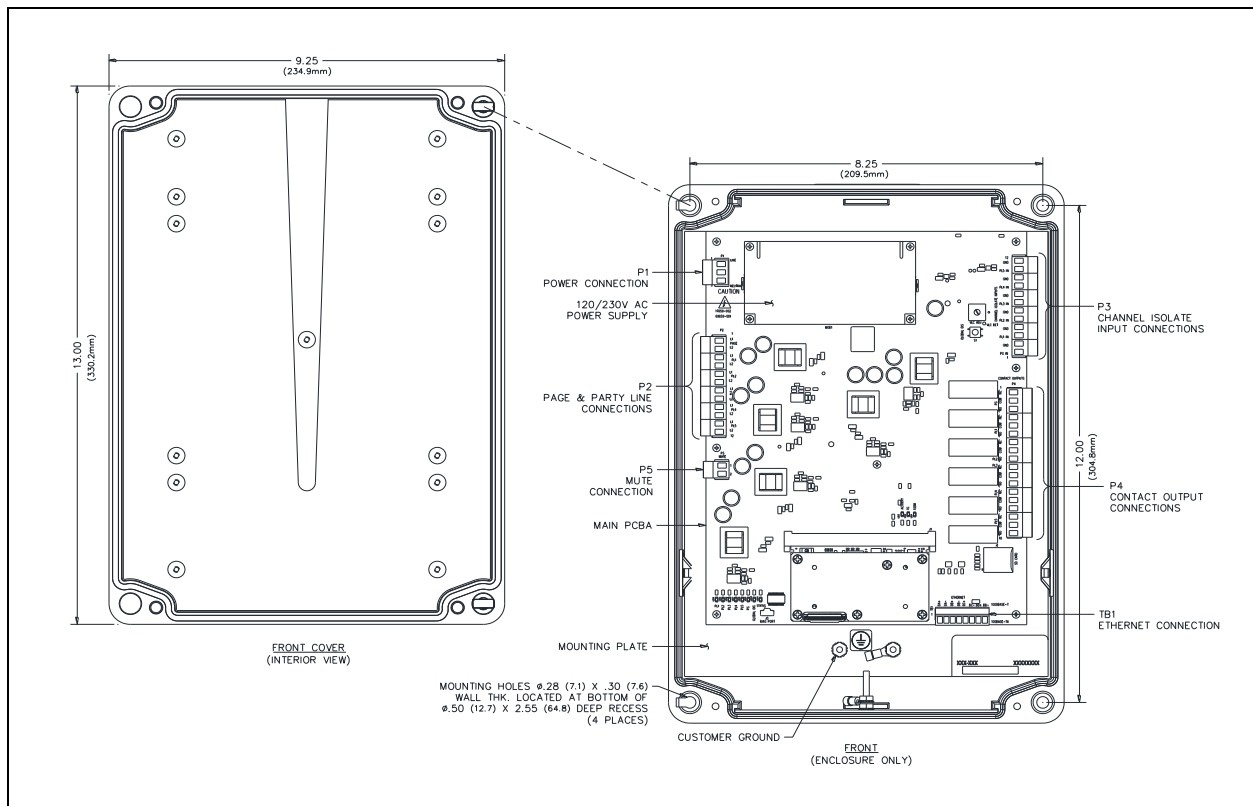

Figure 2. Model 370-901 SP2 to Page/Party Bridge
3. Secure the ground conductor to the CUSTOMER GROUND lug, in the bottom of the rear enclosure (see Figure 2).